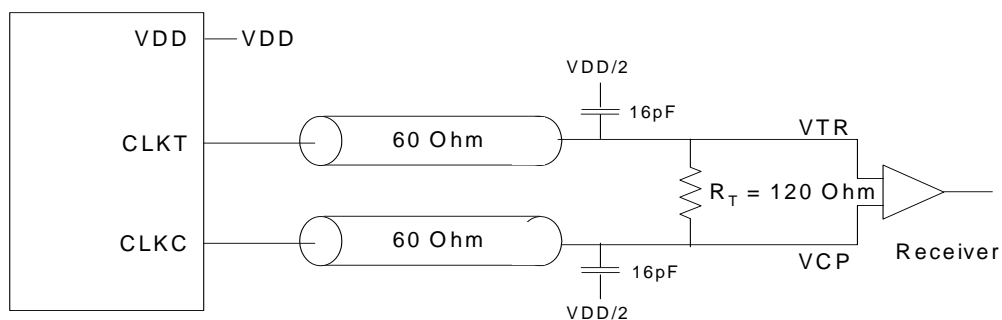

Figure 6. Differential Signal Using Direct Termination Resistor
- For load conditions see Figure 6.
- The value of V_{OC} is expected to be $|V_{TR} + V_{CP}|/2$. In case of each clock directly terminated by a 120Ω resistor. See Figure 6.
- All outputs switching loaded with 16 pF in 60Ω environment. See Figure 6.
- All differential input and output terminals are terminated with $120\Omega/16\text{ pF}$ as shown in Figure 6.